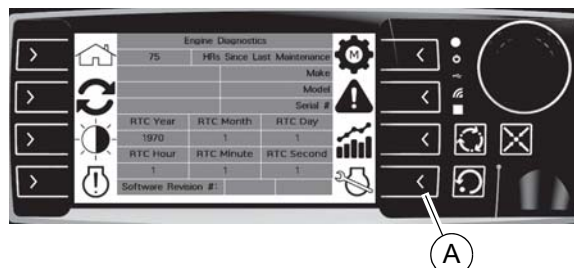

Figure 4-4. Engine Diagnostics Page
2. See Figure 4-4. The Engine Diagnostics page displays. Press the indicated button (A)